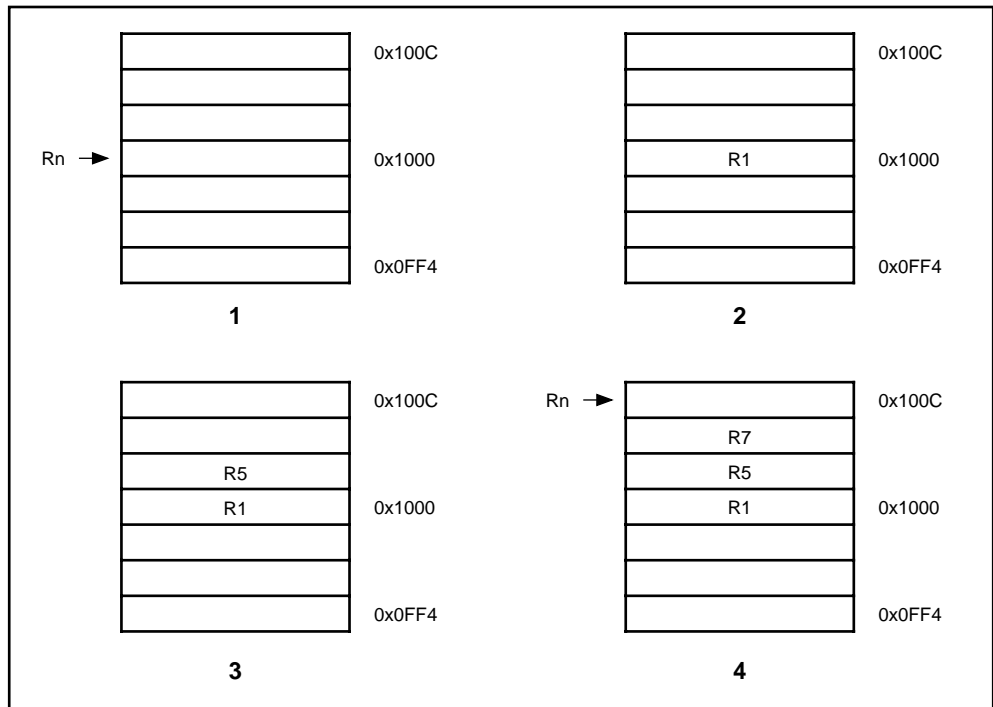
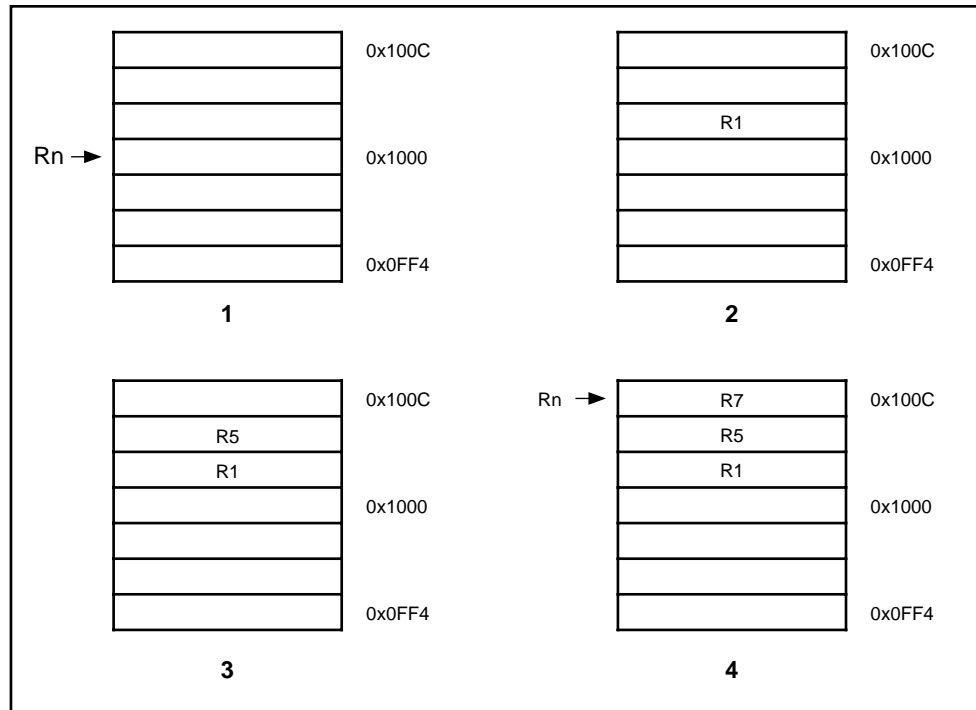
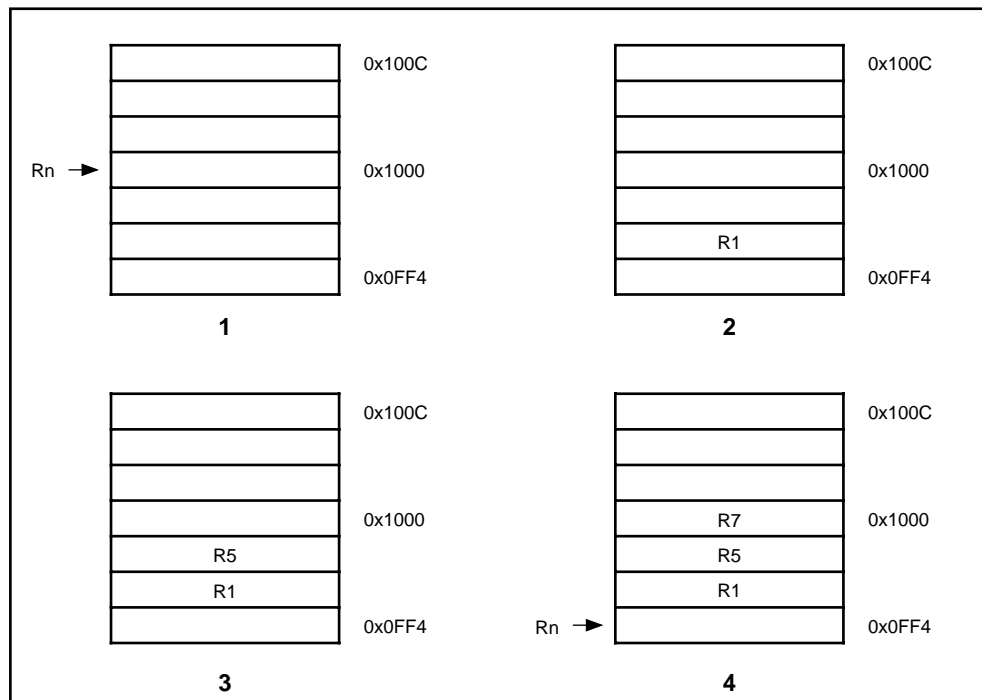
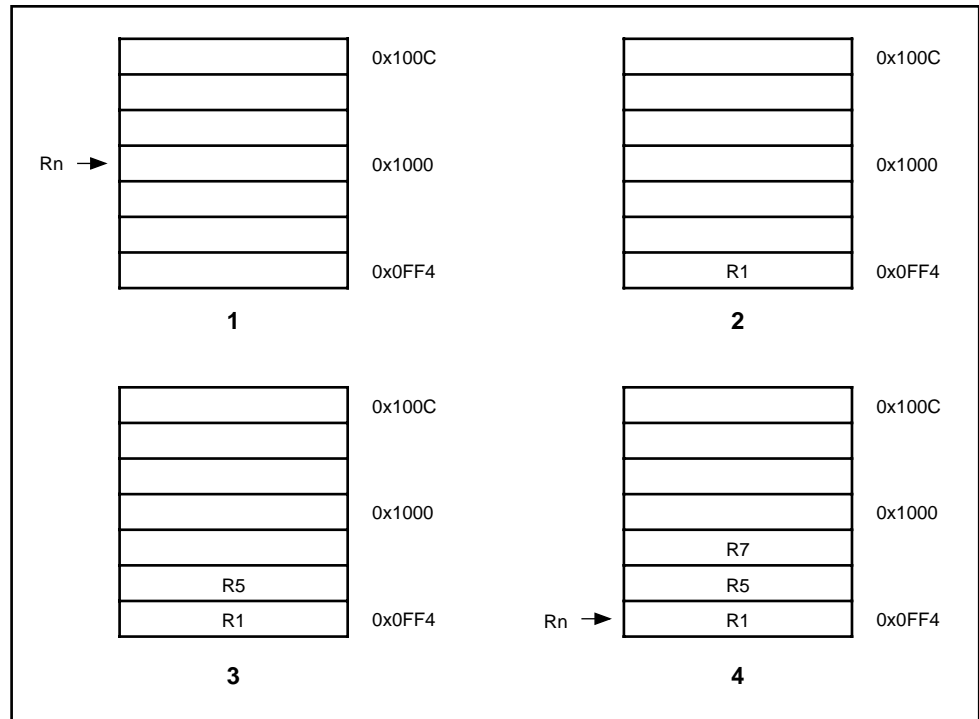

Figure 4-17: Post-increment addressing
Figure 4-18: Pre-increment addressing
Figure 4-19: Post-decrement addressing
Figure 4-20: Pre-decrement addressing
The transfer addresses are determined by the contents of the base register (Rn), the pre/post bit (P) and the up/down bit (U). The registers are transferred in the order lowest to highest, so R15 (if in the list) will always be transferred last. The lowest register also gets transferred to/from the lowest memory address. By way of illustration, consider the transfer of R1, R5 and R7 in the case where Rn=0x1000 and write back of the modified base is required (W=1). ◻Figure 4-17: Post-increment addressing, ◻Figure 4-18: Pre-increment addressing, ◻Figure 4-19: Post-decrement addressing and ◻Figure 4-20: Pre-decrement addressing show the sequence of register transfers, the addresses used, and the value of Rn after the instruction has completed.